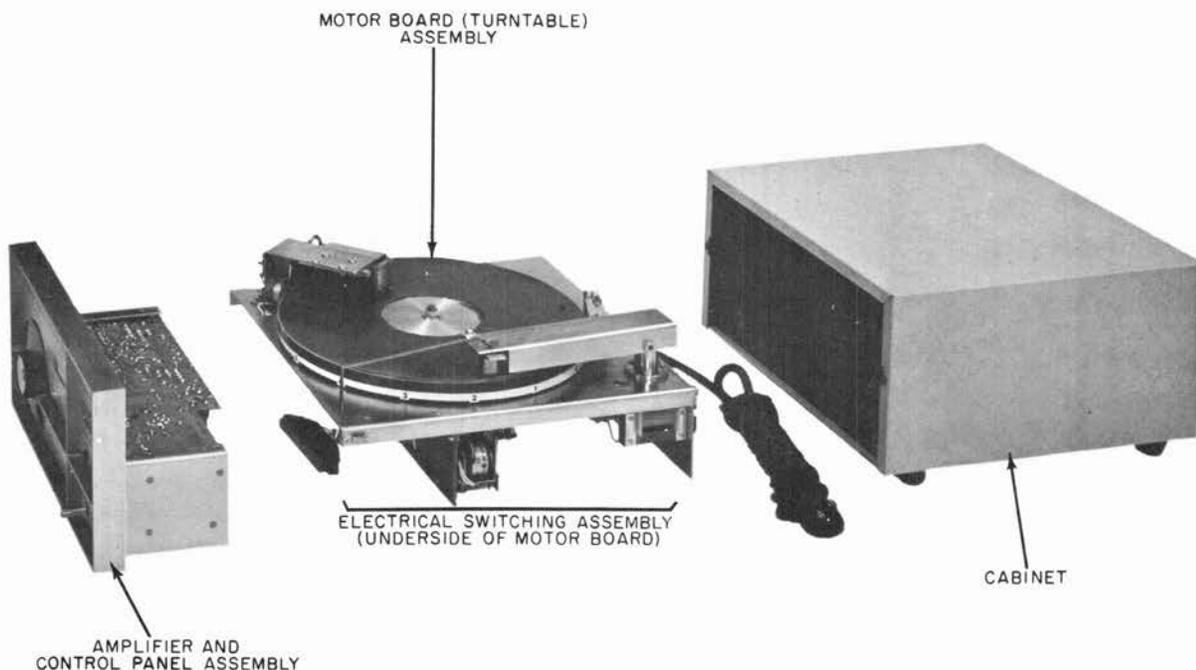

Figure 1. Principal Assemblies.
2.01 The Model SP-2 may be broken down into the following principal assemblies: (see Figure 1).
2.02 As may be seen from Figure 1, the Model SP-2 employs a unit type of construction, in which any one principal assembly can be removed from the main assembly without unwiring or using involved disassembly techniques.